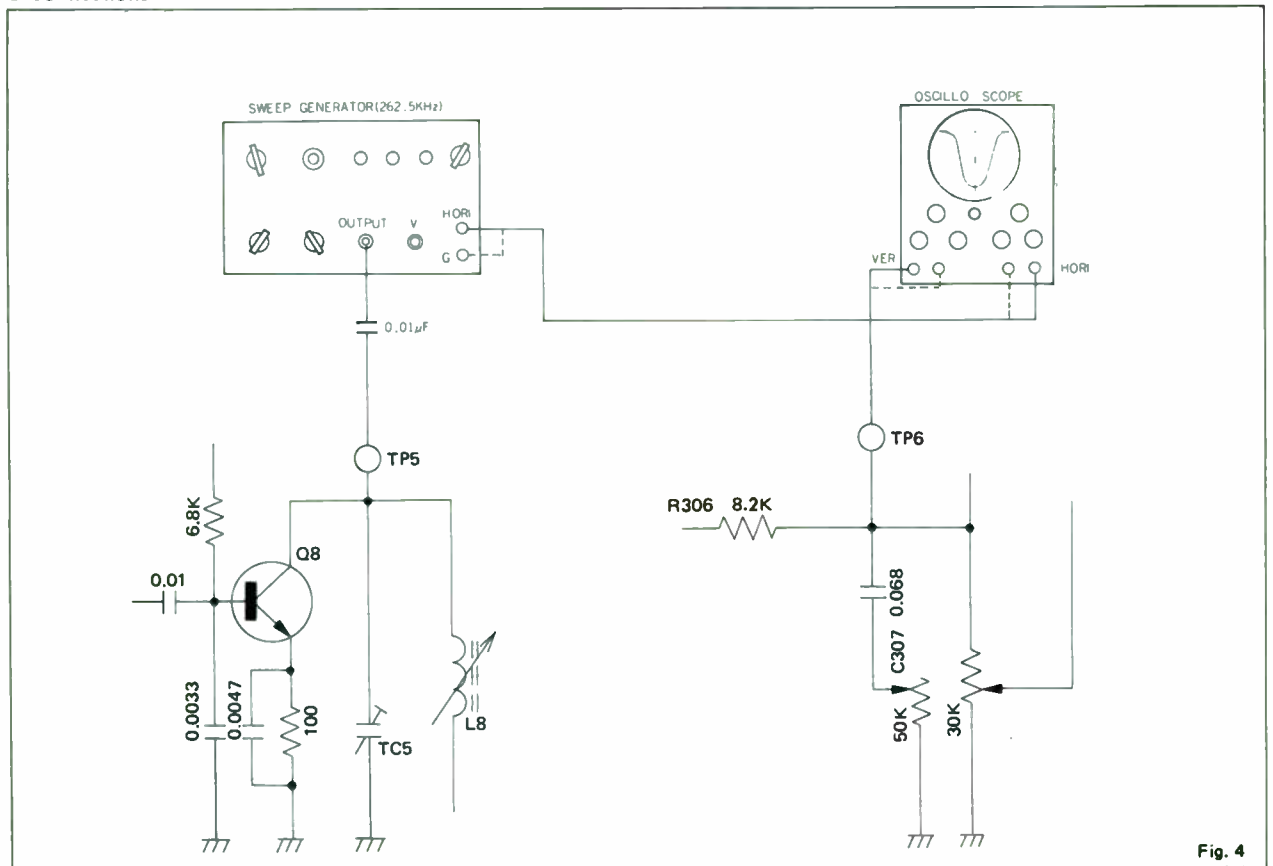

Fig. 4
262.5KHz and its output level is increased, a waveform as shown in Fig. 4 is obtained.
- Now adjust the core of each IFT (IFT₅, IFT₆) so that that the peak of the waveform shown in Fig.4 becomes maximum. At this time, the marker signal must be 262.5KHz.